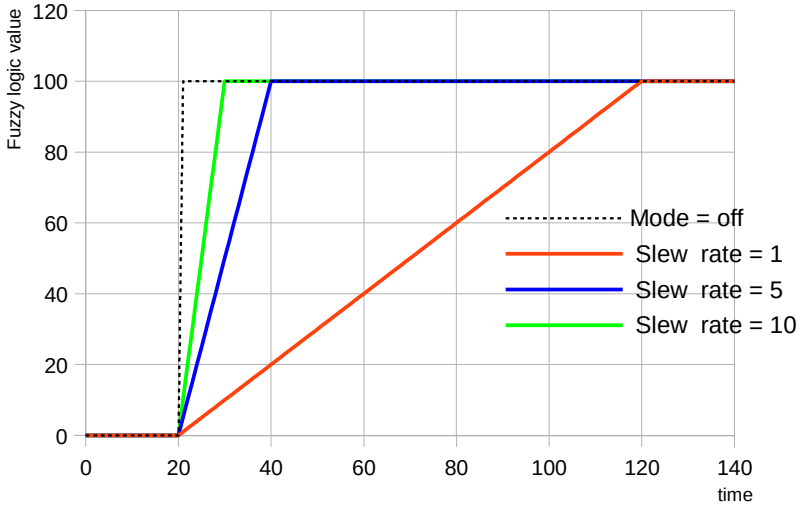

Fig. 7.117. Change of fuzzy logic value according to **Slew rate** parameter
- **Slew rate** – defines the slew rate, (see Fig. 7.117),